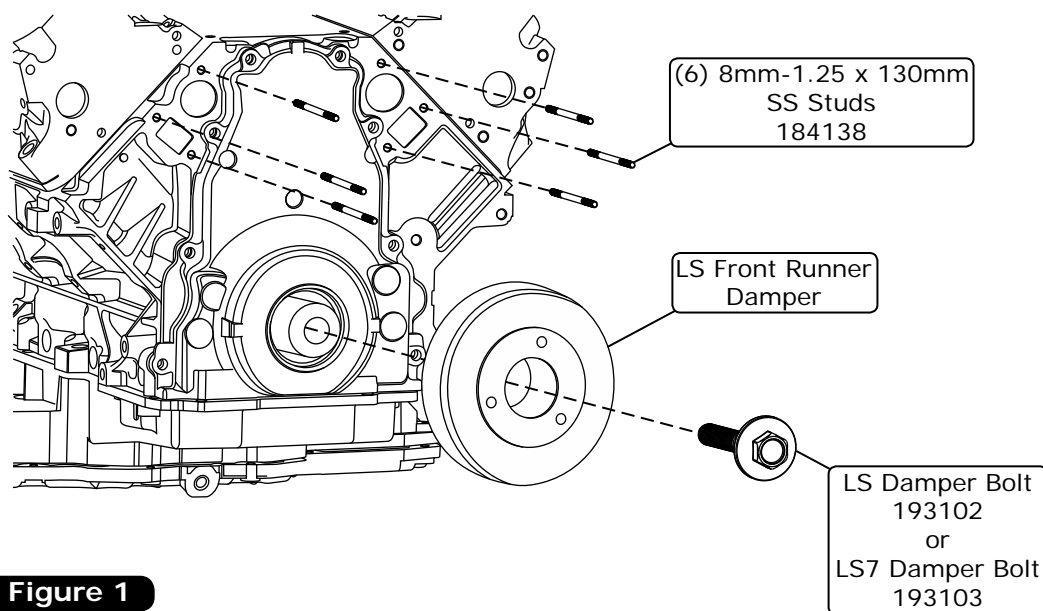

Figure 1
1. Install the new damper and bolt as shown in Figure 1, Page 6. **NOTE: Refer to the instructions included with the damper.**
2. Using a clean mating surface, install the (6) 8mm-1.25 x 130mm SS studs as shown in Figure 1, Page 7.